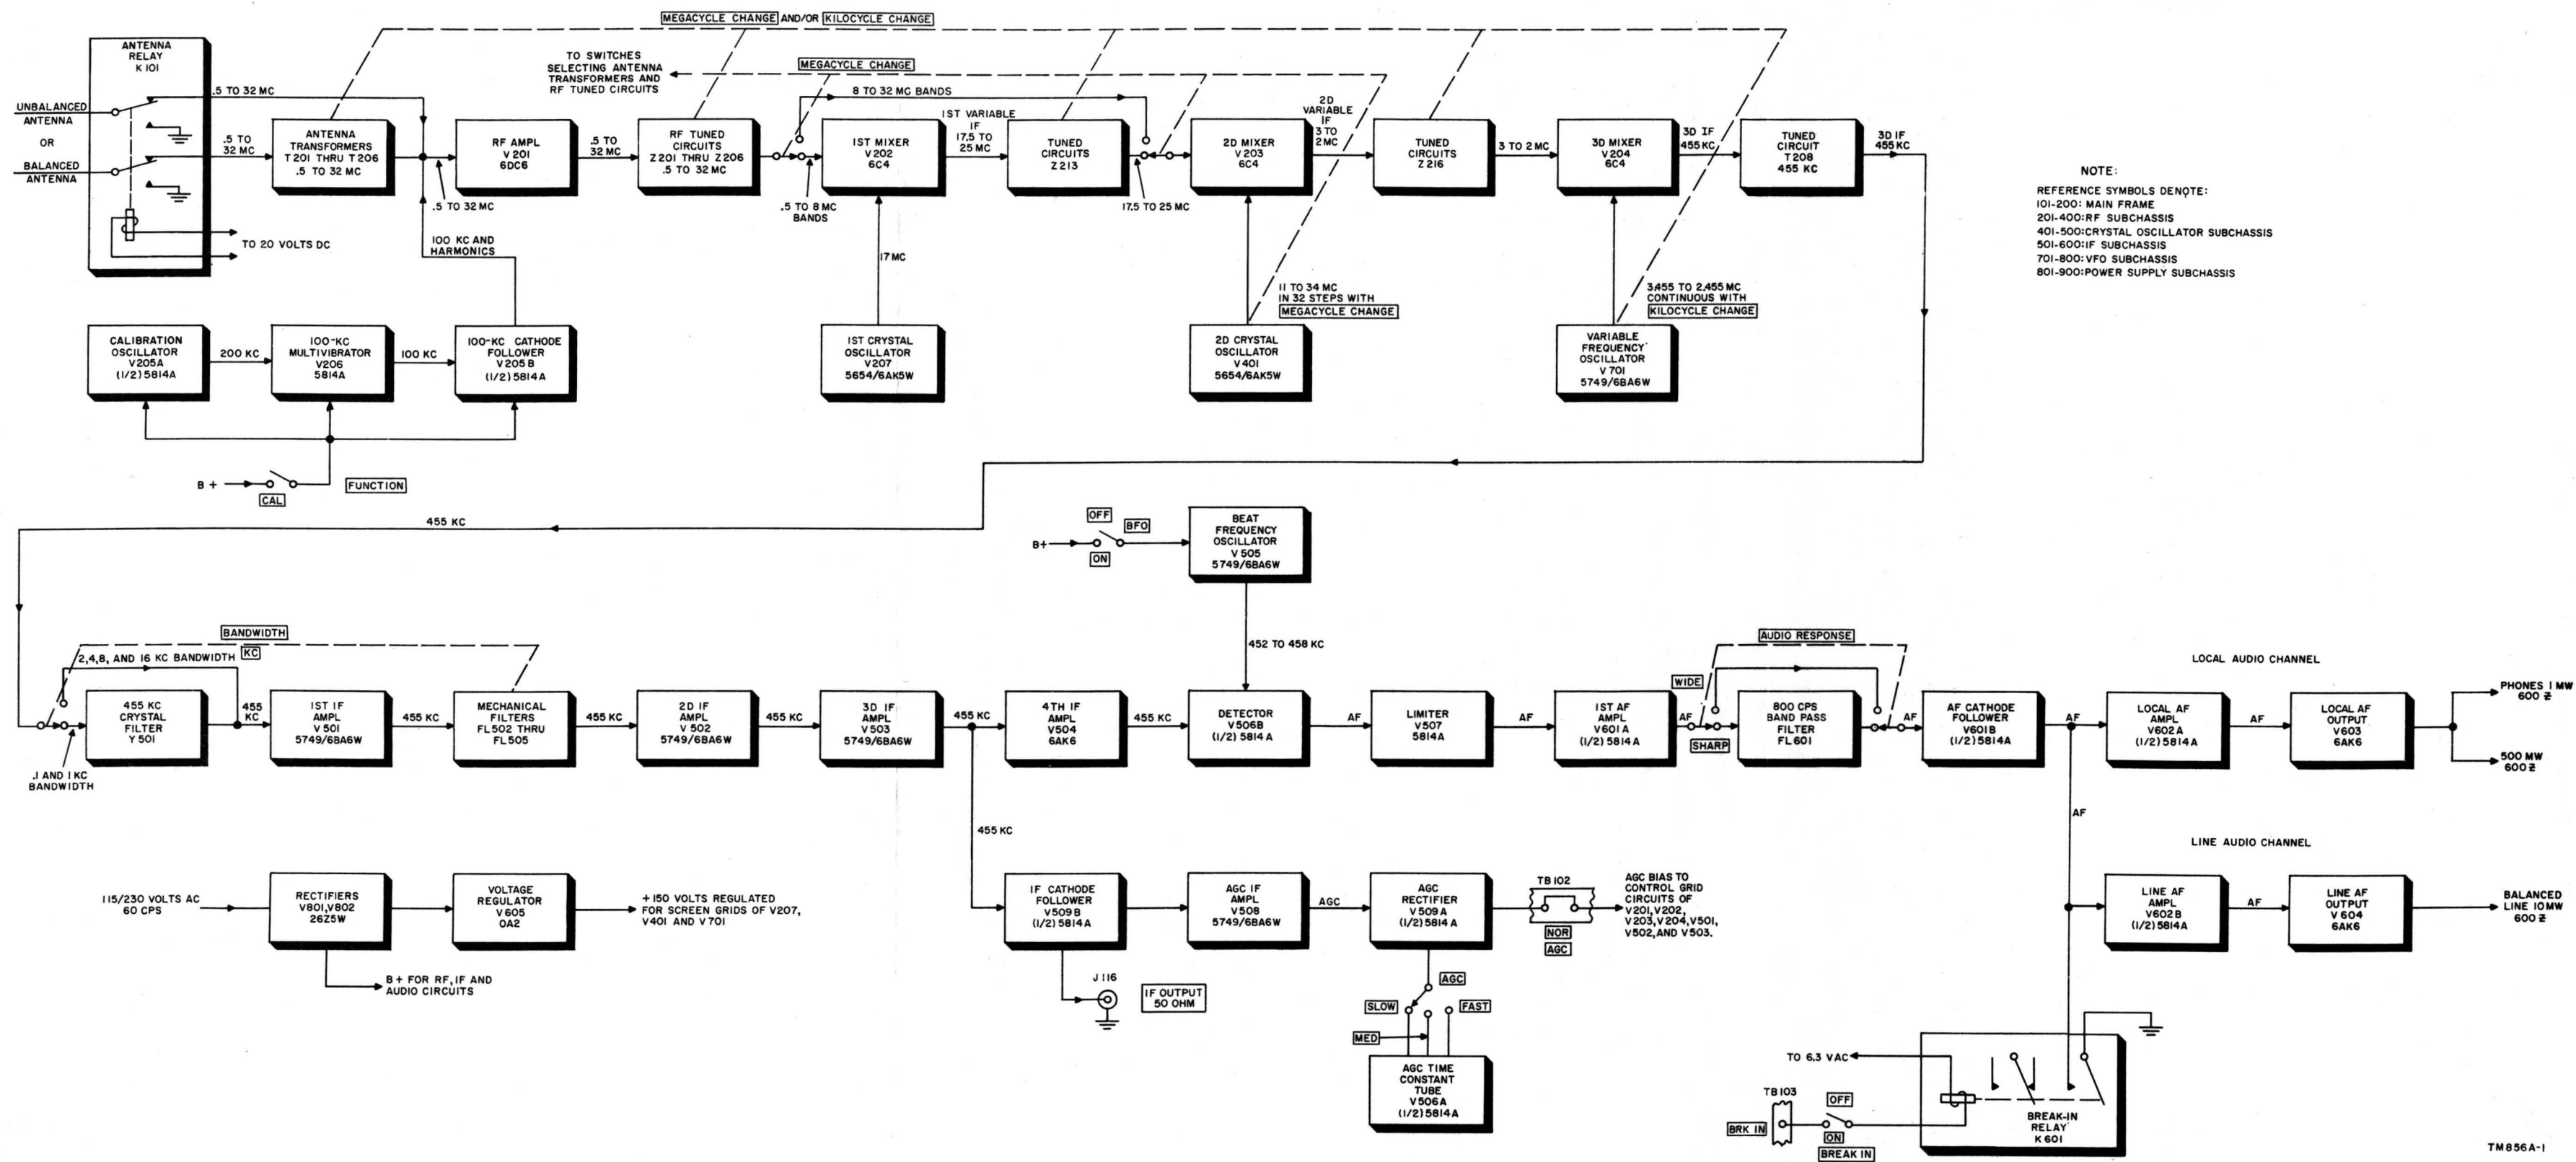

Figure 17. Radio Receiver R-390A/URR, block diagram.
a. Figure 17 shows the path of the receiver signals from the antenna input to the audio output and if output. Figure 106 is a complete schematic diagram of the receiver.